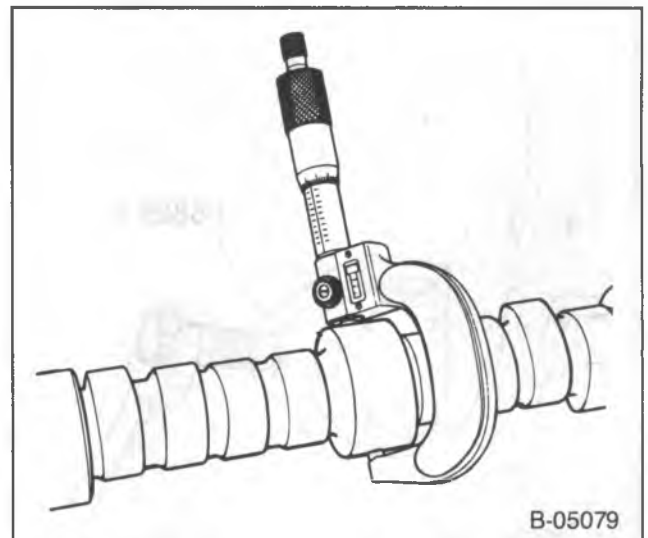

Figure 15—Checking the Camshaft Journals
- Camshaft journal diameter (figure 15). The proper diameter is listed in "Specifications."